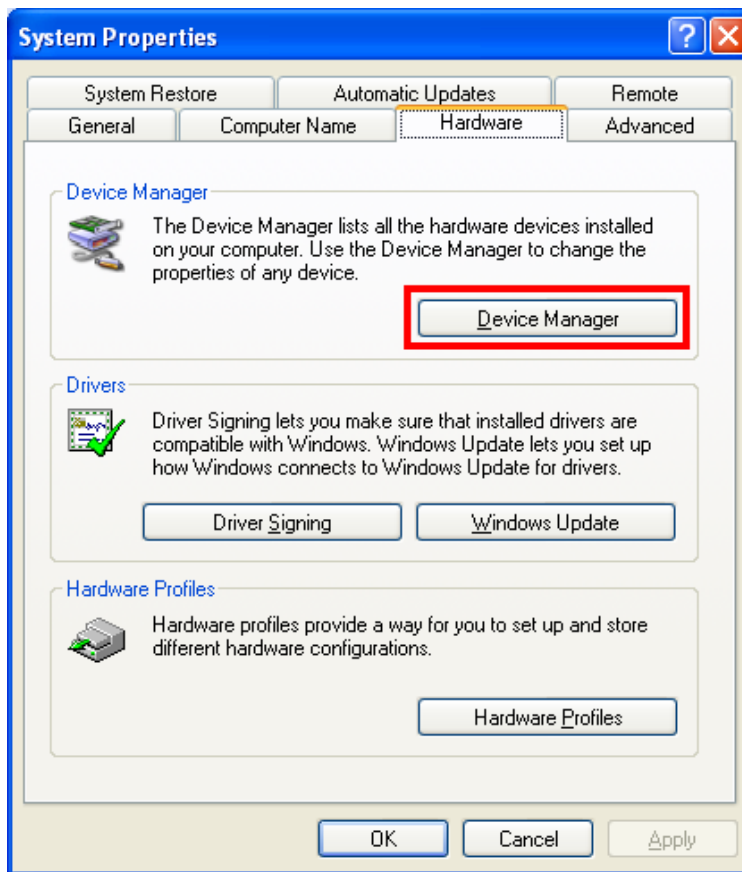

Figure 7-5: Click the Device Manager Tab
Step 3: Click the **Device Manager** tab (Figure 7-5).